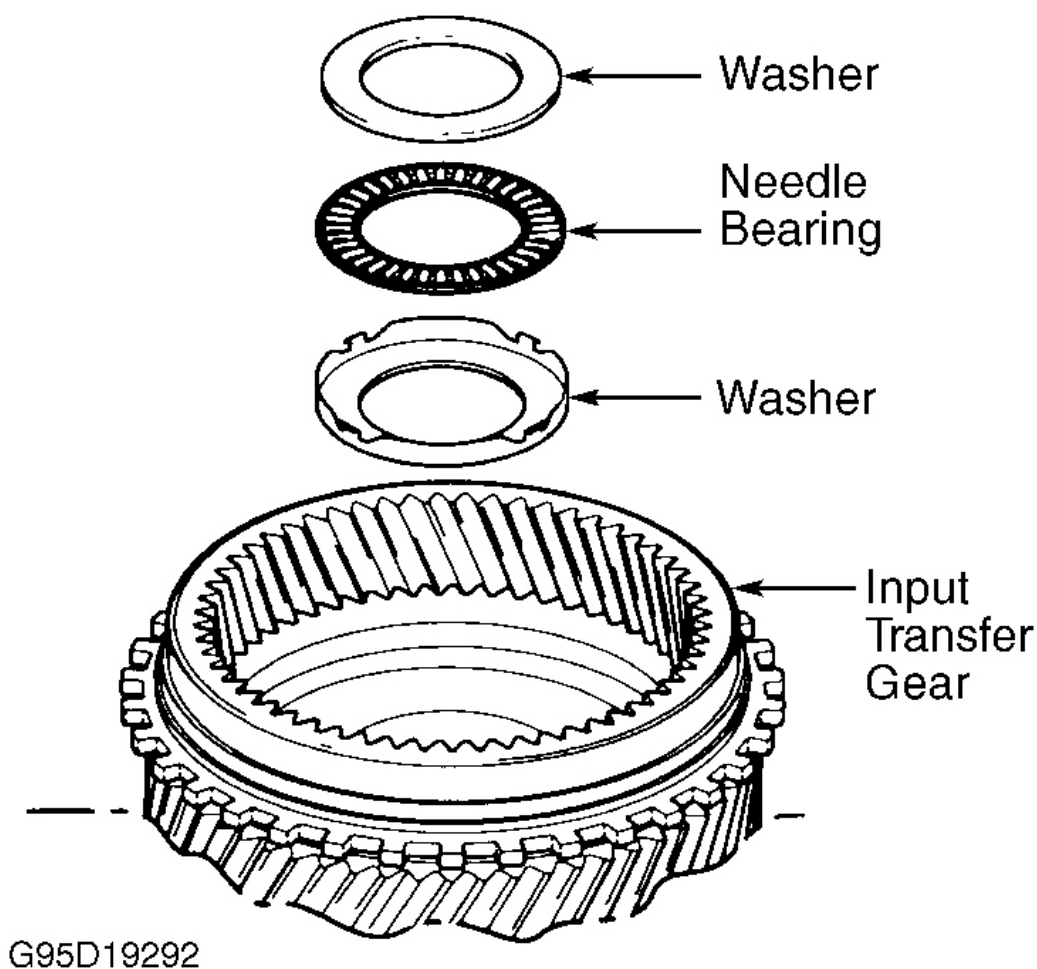
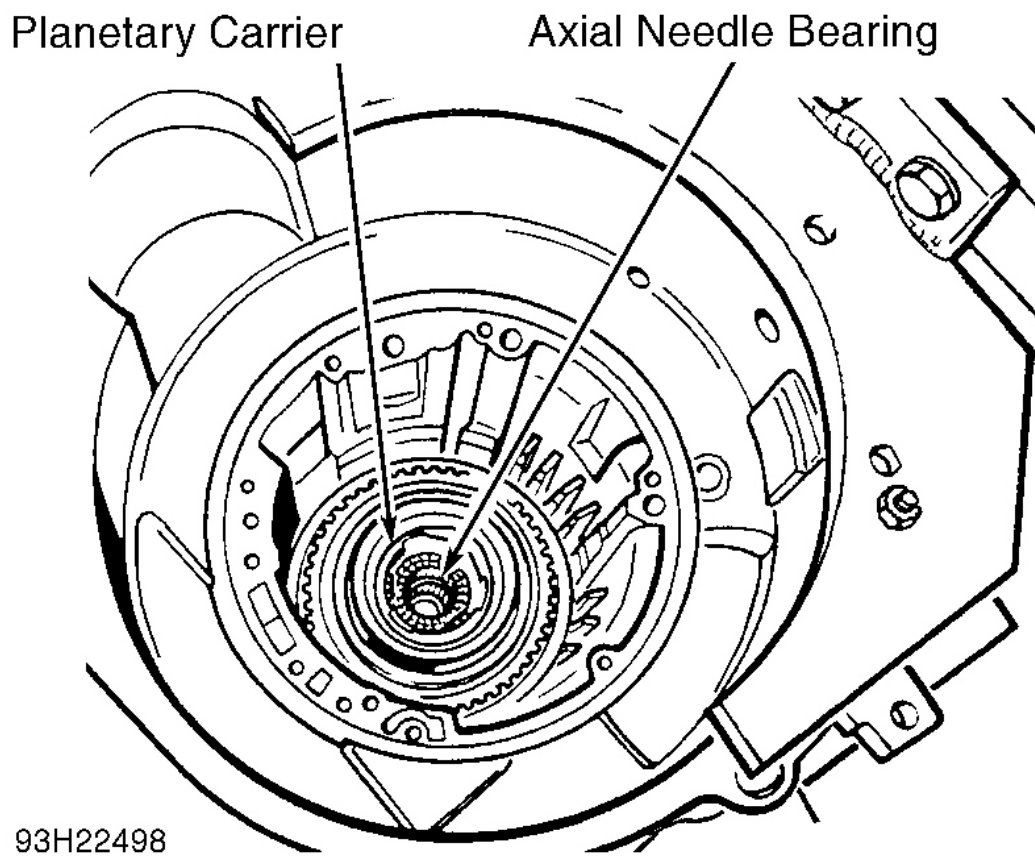

Fig. 63: Installing Axial Needle Bearing To Input Transfer Gear
Fig. 64: Installing Planetary Carrier & Axial Needle Bearing
1. Input transfer gear, drive pinion and differential assemblies should be adjusted and installed at this time. Install axial needle bearing to input transfer gear. See Fig. 63 . Install "O" ring and planetary carrier. On early 1993, install small sun gear. On all, install axial needle bearing and washers. See Fig. 26 and Fig. 64 . Install end plate shim for reverse brake clutch plates. See Fig. 65 .